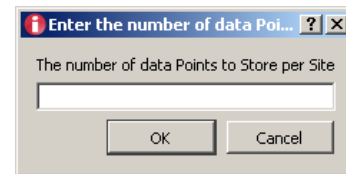

**FIGURE 7. FILE NAME AND DIRECTORY SAVE DIALOG BOX**
- The DPM software allows the user to store a set number of points of data. Go to the menu bar of the ISL28022 DPM Demo Software window and choose File -> Save Data. Choosing the Save Data option will open a dialog box asking for the filename and directory of the save path. Figure 7 is an illustration of the dialog box.